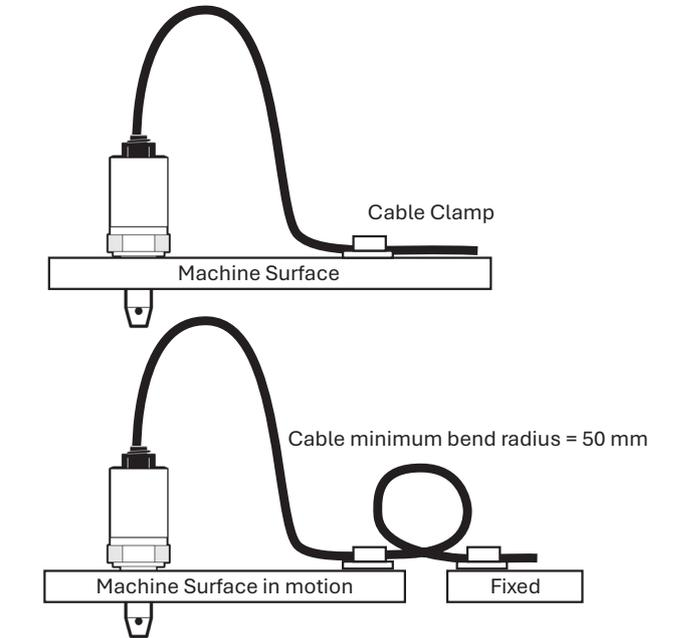

Fig. 5-1 Cable Fitting
- Refer to Fig. 5-1. To prevent vibration having any adverse effects to the cable/ sensor connectors, the cable must either be mounted on the same plane as the sensor, or have a loop fitted to absorb vibration.